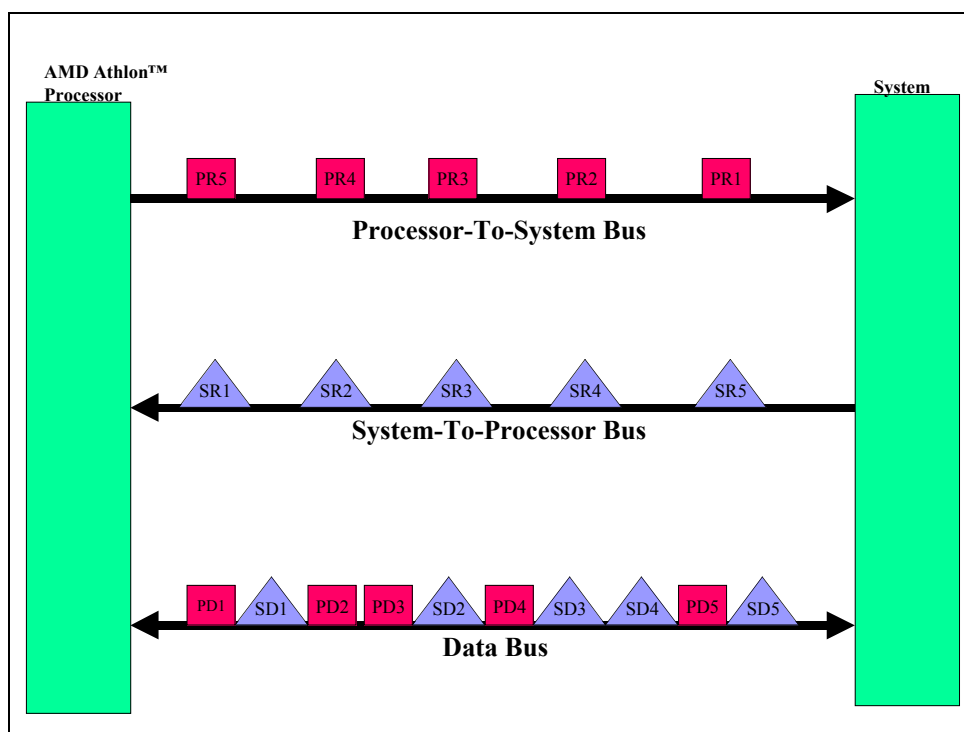

Figure 8: AMD Athlon™ System Bus Split Transaction Example
As shown in Figure 8, the three independent, high-performance channels (and support logic) enable split-transaction capability. Processor requests (PR) and system requests (SR) can be sent concurrently and independently. System data (SD) and processor data (PD) can be returned to the requestor immediately or at a later time, depending on availability. Ordering is mitigated by instantiating a unique ID associating the request with the corresponding data.